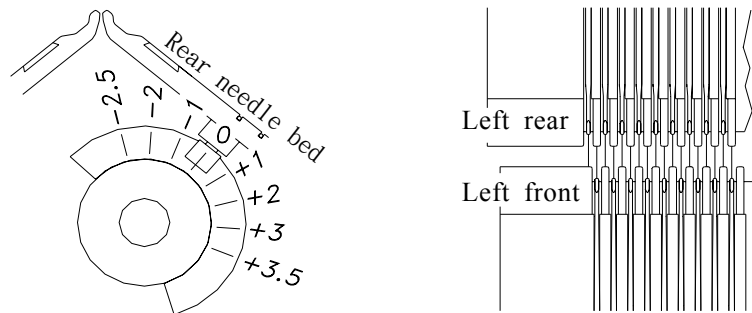

Fig.9.1 Initial position of needle bed
- ① The rear bed can be racked five (5) pitches, the initial position "0". See the left selvedge of needle bed, the corresponding position that the first needle of rear is on the left hand side of the first needle of front. As shown in Fig.9.1.
- ② In editing instruction you can choose the left racking or the right racking by one pitch.
- ③ In each racking position the rear bed and the front bed must be kept in correct corresponding relation. You check it with pushing one front needle to tuck position, the hook of front needle and the knock-bit of rear bed should be at the same position.